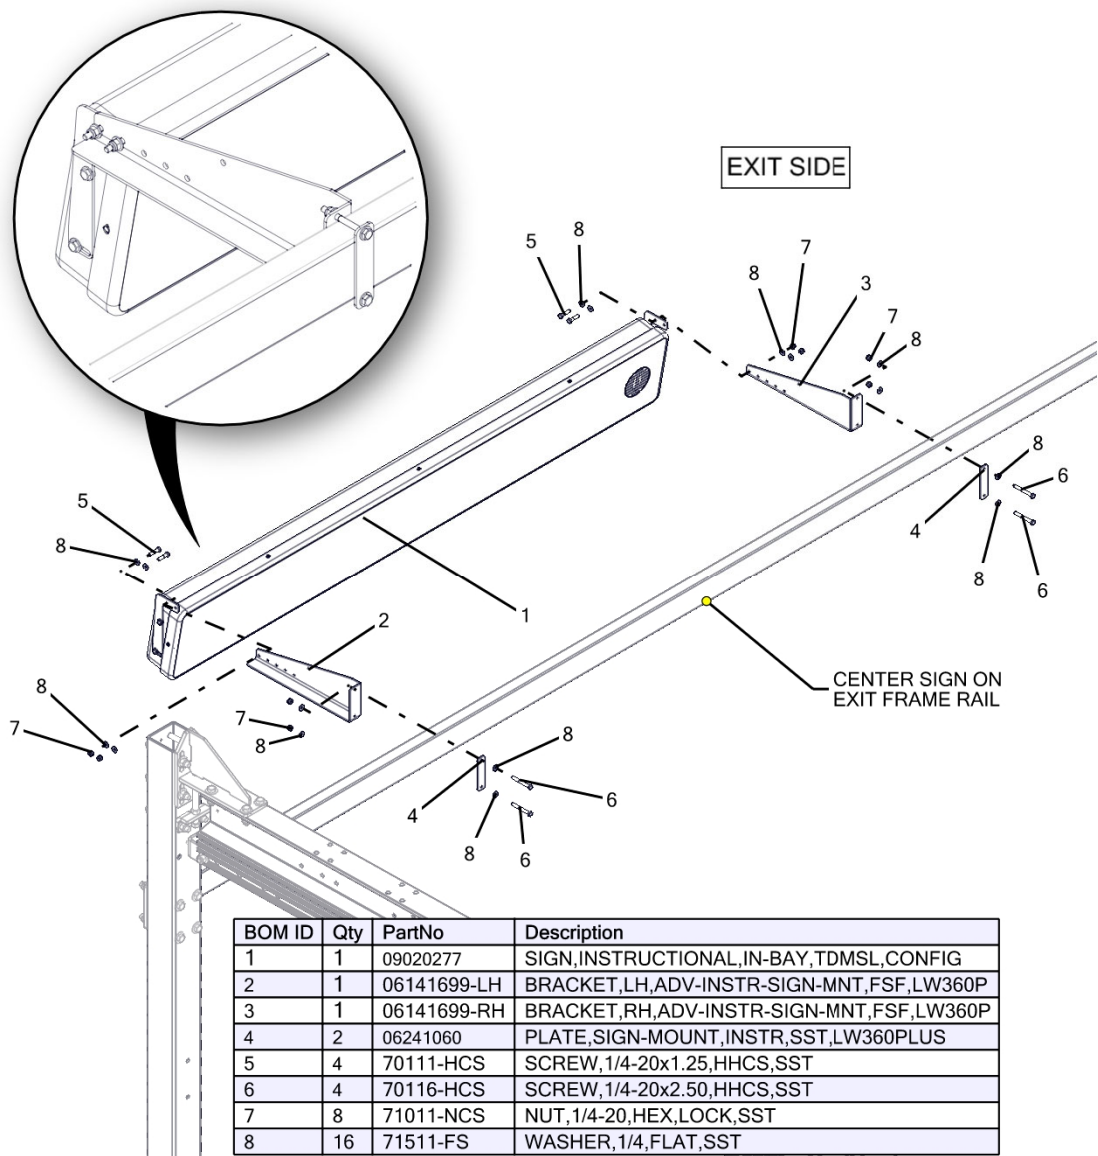

Figure 182 – Advanced In-Bay Instructional Sign Free Standing Frame Installation
- For a Free-Standing frame installation, the Instructional Sign is mounted to the frame at the exit end of the wash per Figure 182 and Figure 183.